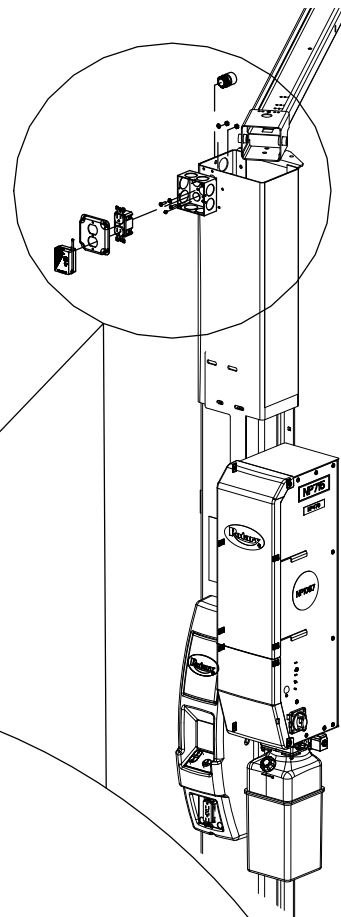

Fig. 25
- Mount the receptacle box to the extension directly above the DC control cabinet with the included #12-24NC x 3/4" long pan head machine screws and nuts, Figure 25. Be sure to mount #12 star washers to one mountingscrew as shown in Figure 25. This is very important for grounding.
- Plug wires receiver for the laser in the bottom receptacle and wire tie to the receptacle box, Figure 25.